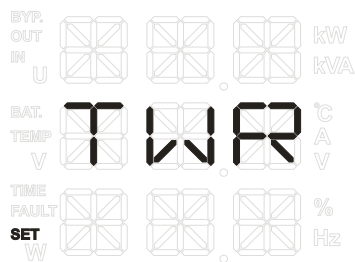

Figure4-14 Tower setting
Tower display setting page: when the UPS has been set to rack display mode and it needs to set to tower display mode, enter this setting page, **TWR** flickers. If you confirm the setting, press **ⓘ** (ON) button more than 1s, exit the setting page, the setting succeeds. If you do not confirm the setting, 20s later, it will exit the setting page automatically. Corresponding LCD display is as shown in Figure4-14.